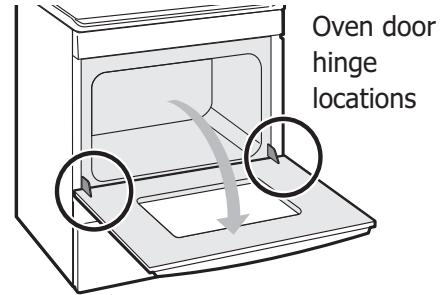

Figure 36: Door hinge location
1. Open oven door completely, horizontal with floor (See Figure 36).
3. Fully open the oven door, horizontal with floor (See Figure 36).